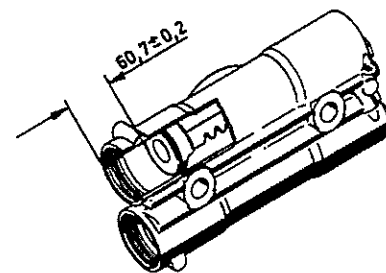

Fig.46
Slide both pistons (258) into add-on cylinder (250) up to the middle position (installed value 60.7 ±0.2 mm) (Fig.46).
- The middle tooth of both pistons (258) is marked on both face ends.
- The centered bore (with installed breather valve) in pistons (258) must point towards the closed end of add-on cylinder (250).